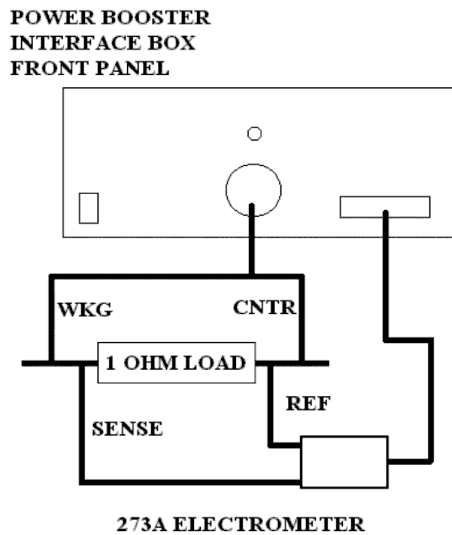

Fig. 4. Dummy Cell Connections.
1. Connect a 1- $\Omega$  dummy cell resistor as shown in Fig. 4.